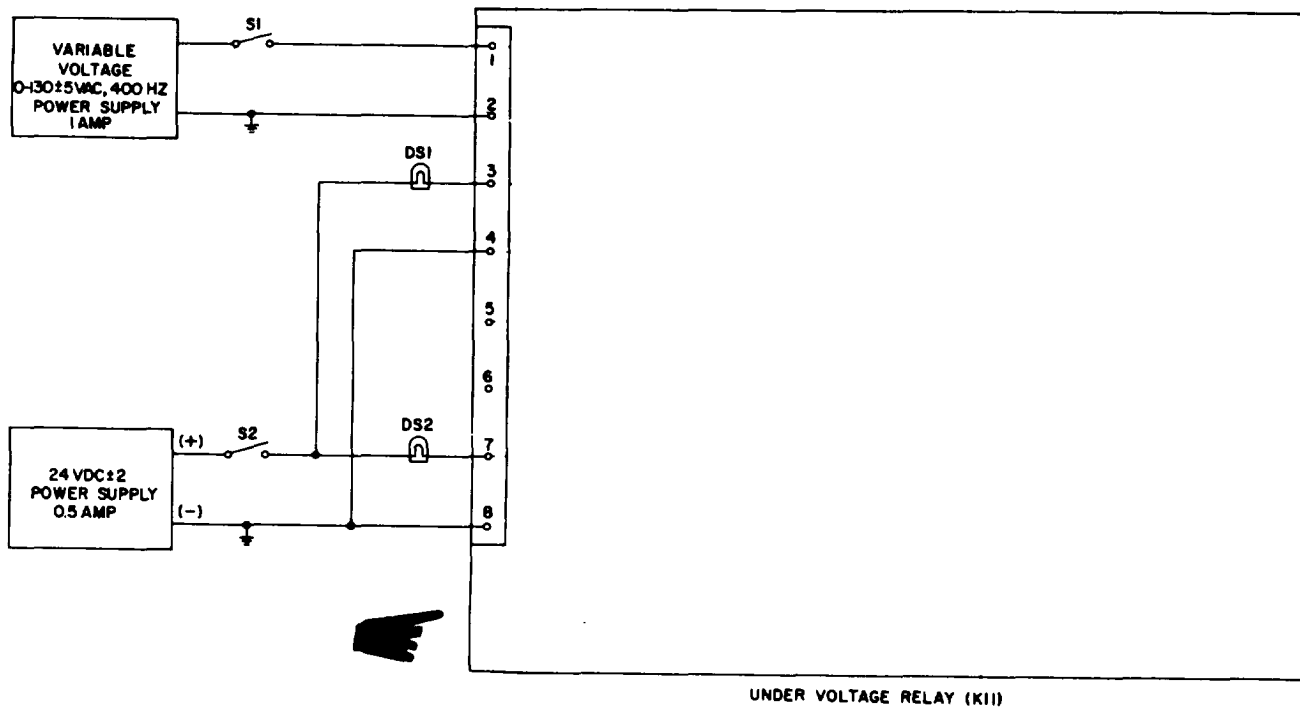

Figure 6-29. Undervoltage relay (K11), test setup
a. Connect the undervoltage relay to the test equipment as illustrated in figure 6-29.